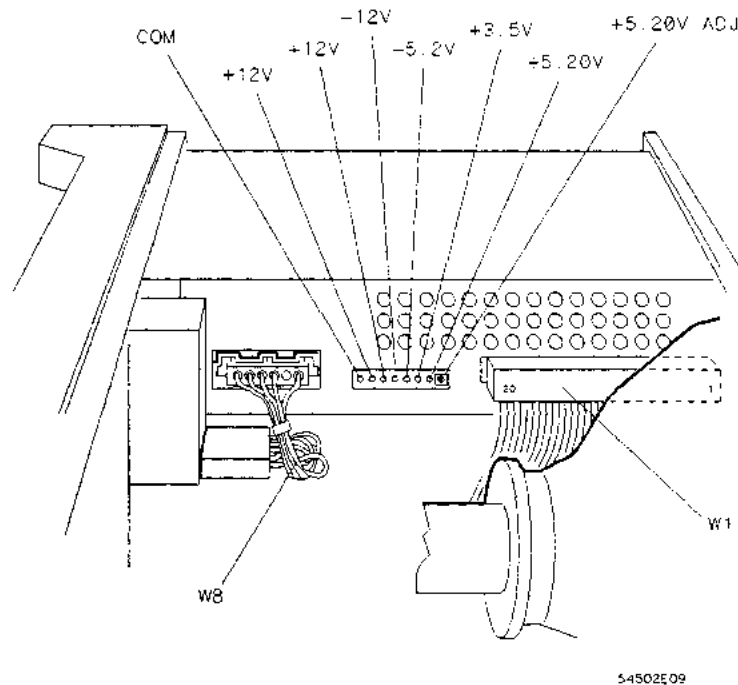

Figure 4-1. Power Supply Adjustments
1. Disconnect the power cord from HP 1652B/1653B and remove the top cover. Then refer to figure 4-1 for the testpoint and adjustment locations.